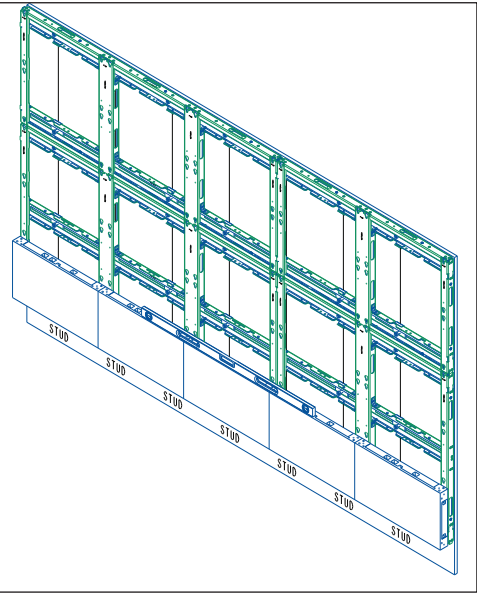

Figure 21: Install Remaining Panels in Bottom Row
5. Repeat **Steps 1–3** for the remainder of the first row. Refer to **Figure 21**.